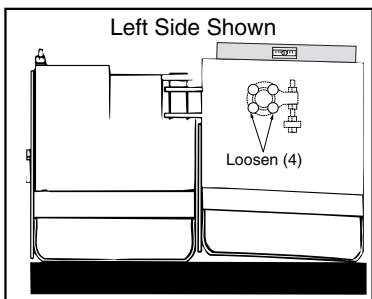

Figure 113.
- 1) Place a level on the outer edge of the screed extension. (Figure 113)